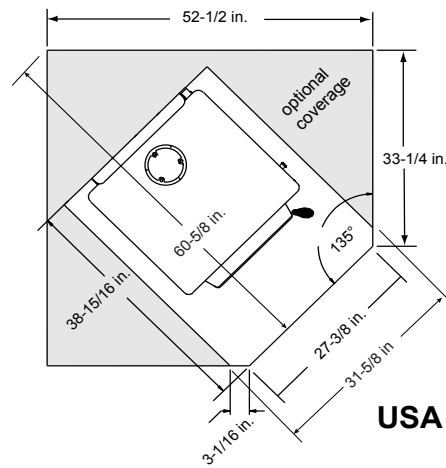

Figure 8.2
In Canada, It is required to install ember protection of 18 inches (457mm) in front and 8 inches (203mm) from the sides and rear of the appliance. **Figure 8.2 *See exception.**
***EXCEPTION:** Non-combustible floor protections must extend beneath the flue pipe when installed with horizontal venting and extend 2 inches (51mm) beyond each side. **See Figure 8.2**